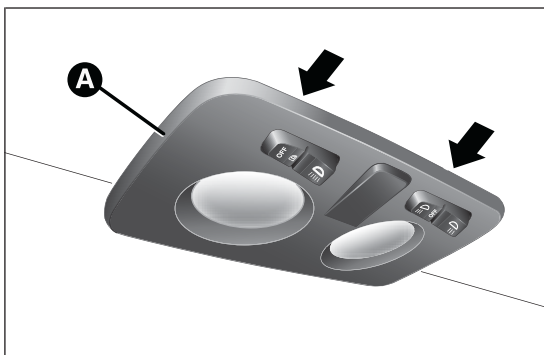
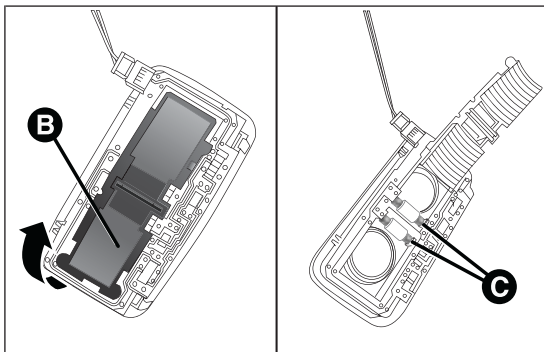

fig. 143
fig. 144
- ❑ remove the roof light A fig. 143 working at the points indicated by the arrows;
- ❑ open the flap B fig. 144 and replace the bulbs C releasing them from the side contacts. Make sure that the new bulbs are correctly secured between the contacts;
- ❑ reclose the flap B fig. 144 and fix the roof light A fig. 143 in its housing making sure that it is locked.